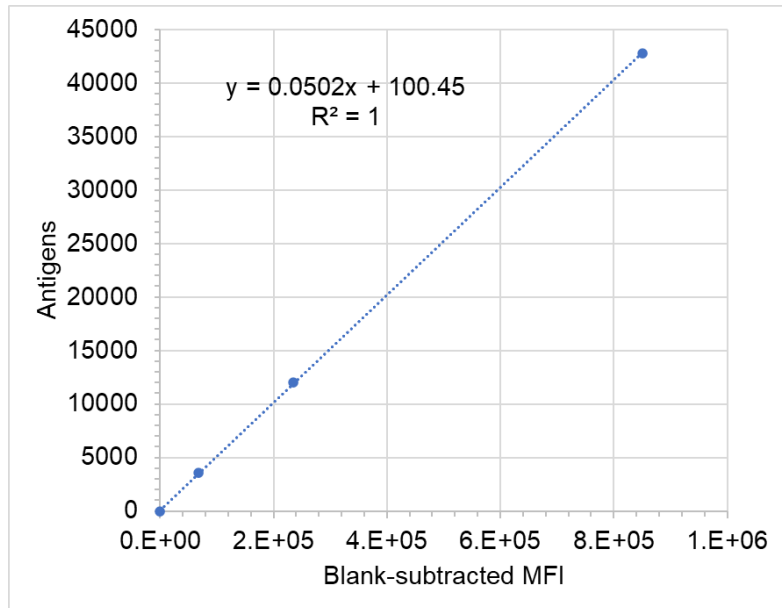

Figure 1. Standard curve of antigens per cell versus blank-subtracted MFI.
- i. Properly gate the population for CTx TruCytes™ as in Figure 1 below in a plot of SSC-A versus FSC-A.